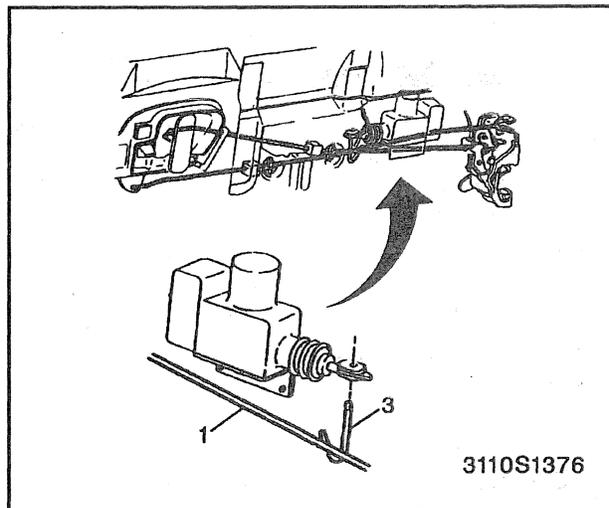

Figure 25—Lock Rods and Actuator
5. Lock rods from lock handle, lock lever, and lock rod guides (figure 25).
4. Lock rods to lock handle, lock lever, and lock rod guides (figure 25).
**↔ Remove or Disconnect (Figure 25)**
**↔ Install or Connect (Figure 25)**